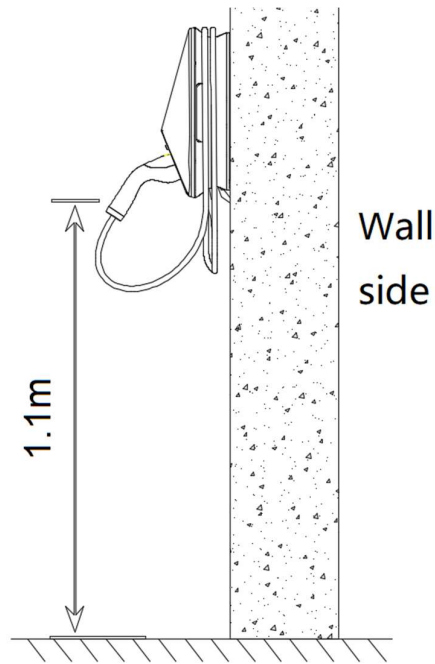
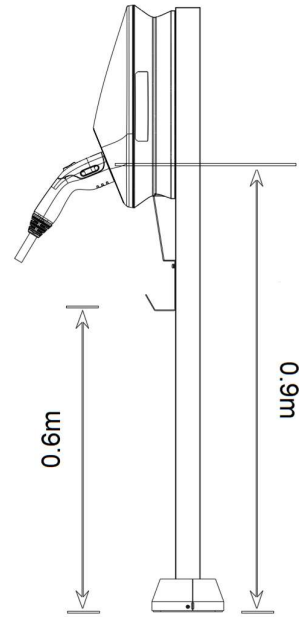

Figure A-10 Wall mounting height
Figure A-11 Pole mounting height
1. Please confirm the installation location and mark it on the wall. It is suggested that the bottom height of charging station should be about 1.1 meters from the ground, as shown in Figure A-10 and the height of the pole mounting is as shown in Figure A-11.